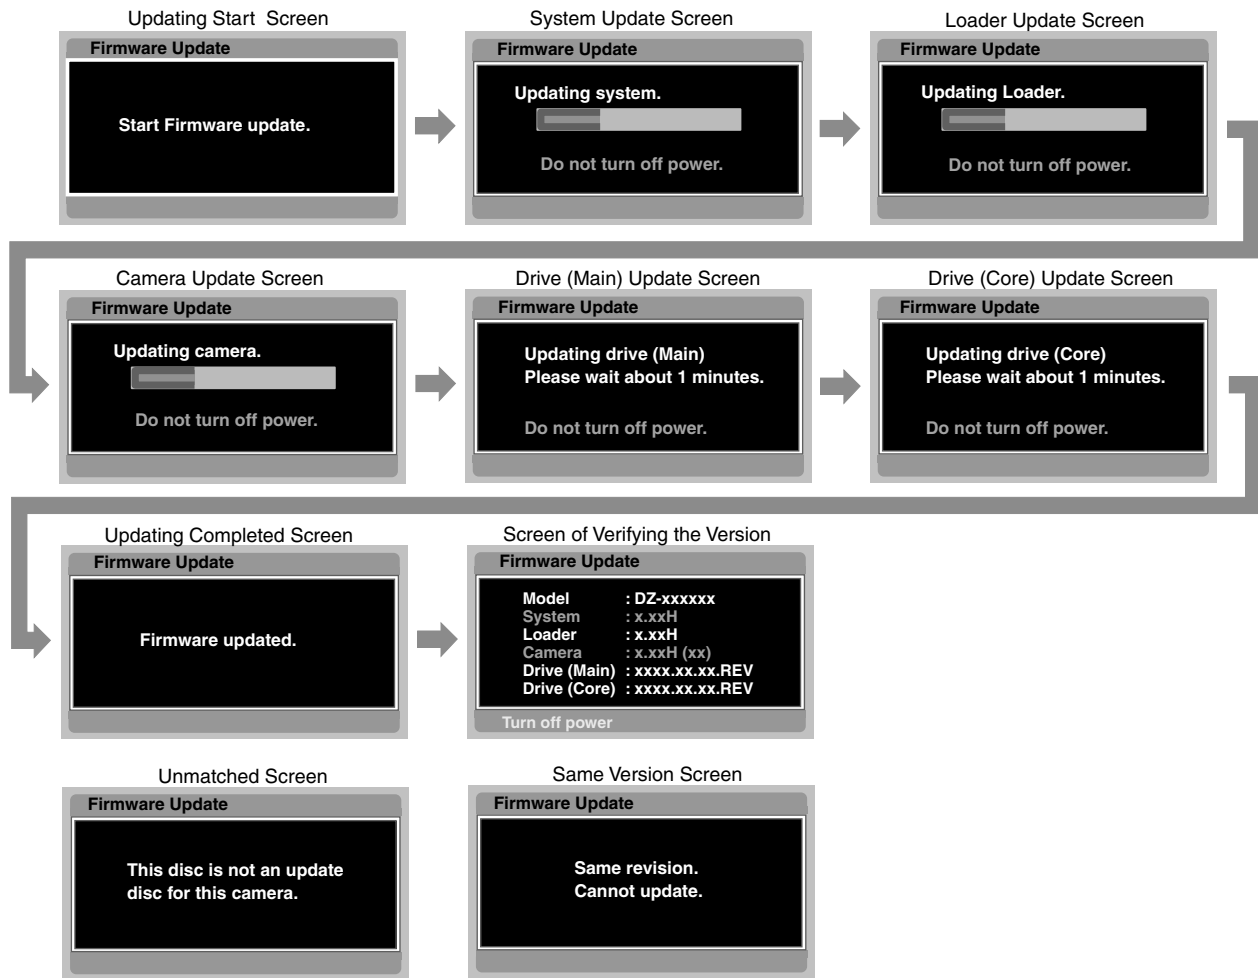

Fig. 4-4-2 Example of Display on Updating Firmware
If a disc/card for updating a model other than that to be serviced is inserted, an mismatch screen (Fig. 4-4-2) will appear: Stop updating and remove the disc/card.
- 5) After approx. 20 seconds, the updating start screen (Fig. 4-4-2) will appear, and the firmware programs will be automatically updated thereafter. During updating, screens showing that designated firmware program is being updated will appear, followed by screen showing that updating is complete.